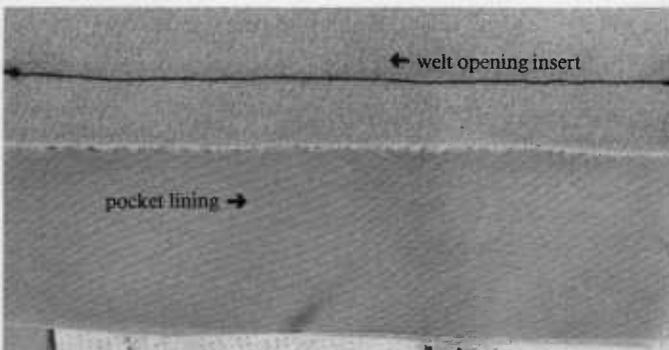

figure 43
- Press seam downward (*figure 43*).